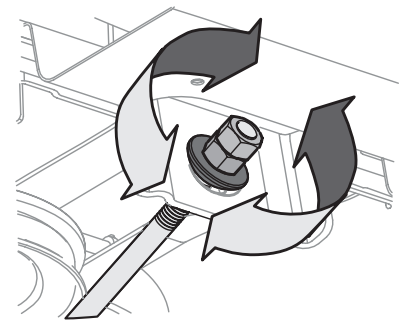

Figure 21
4. To **raise** the front of the deck, loosen the outer nut then tighten (thread inward) the nut against the front hanger bracket. See Figure 21. When proper adjustment is achieved, re-tighten the outer nut to 25-30 ft-lbs (33.9-40.7 N-m).
5. To **lower** the front of the deck, loosen the outer nut then loosen (thread outward) the nut, away from the front hanger bracket. See Figure 21. When proper adjustment is achieved, re-tighten the outer nut.